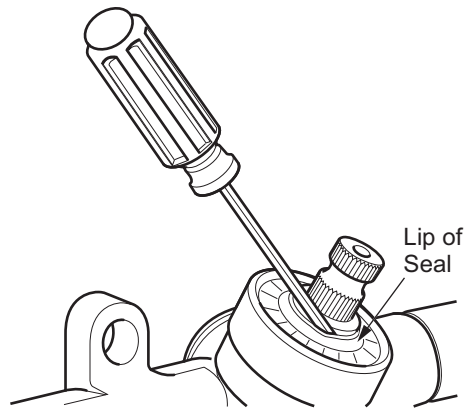

Fig. 14 Pinion Seal Replacement
- Slide a small straight blade screwdriver between the lip of the seal and the pinion and pry the top portion of the seal up to remove (Ref Fig. 14).